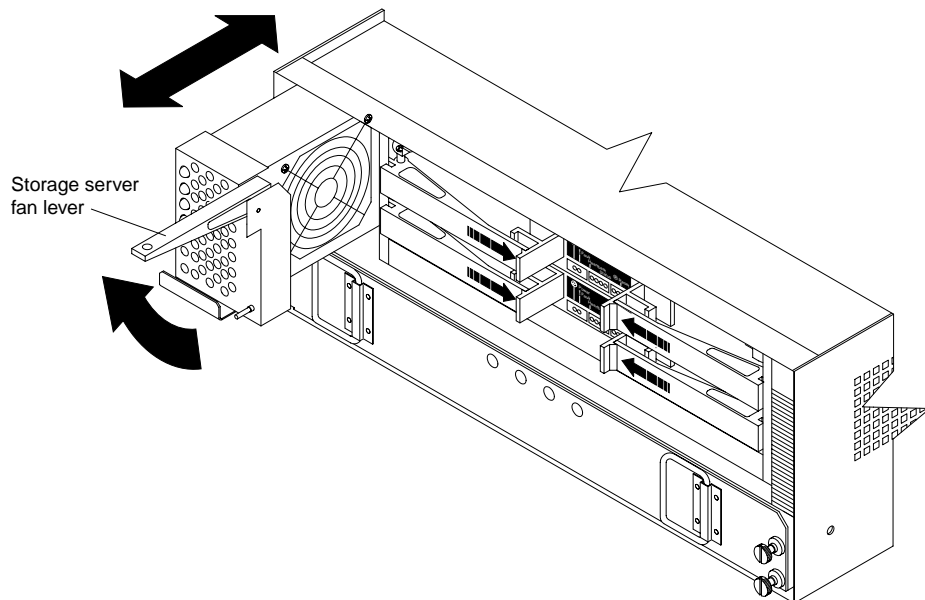
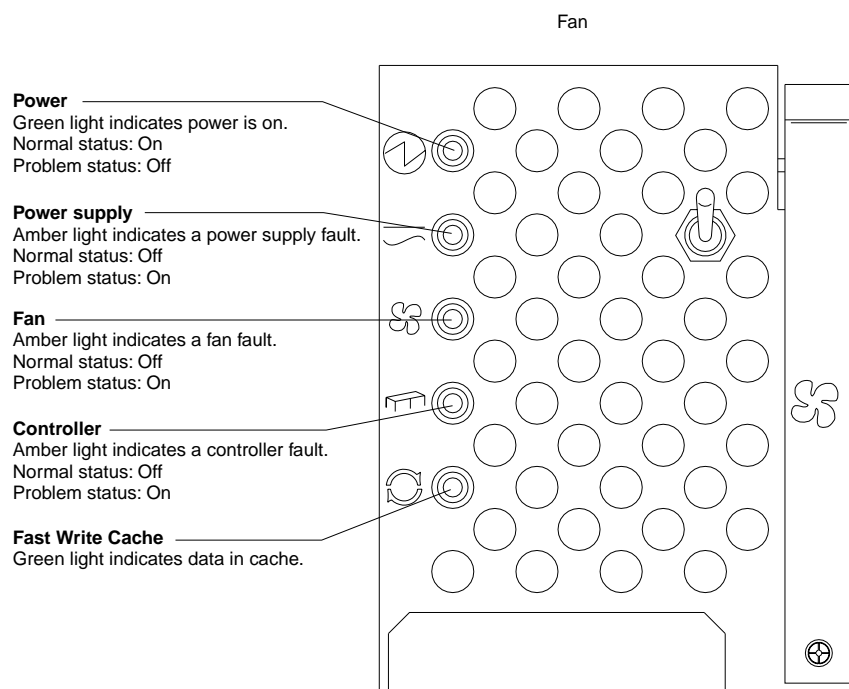

Figure 39. Removing and installing the storage server fan
Figure 40. Storage server indicator lights
The storage server fan is a single, removable unit containing two cooling fans and temperature monitoring circuitry. The storage server fan plugs directly into a slot on the front of the FAStT700 Storage Server, to the left of the controllers (see Figure 39 on page 41). Five indicator lights provide overall system status information (see Figure 40 on page 42). The dual fans in the storage server fan unit provide a redundant cooling system to both controller CRUs. If one fan fails, the other continues
2. Remove the failed storage server fan, as shown in Figure 39.
5. Using Figure 40 on page 42 as a guide, check the storage server indicator lights on the fan.